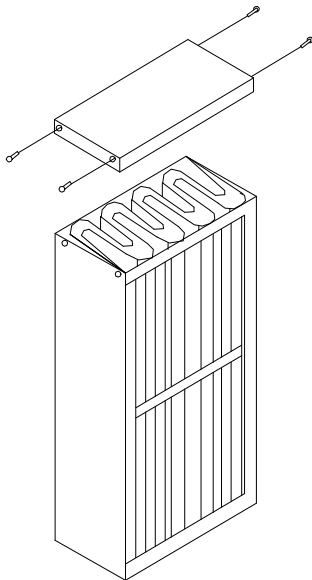

FIG. 1
3. If the unit contains one or two refillable charcoal modules, (RCM), remove each module from the unit by loosening the wing bolts that retain the modules, and pulling the module out. Remove the top cover of RCM to allow access to fill RCM with charcoal provided. (See Fig. 1.) Replace the top cover and re-install the modules into the unit, and tighten wing bolts. (Retain any additional charcoal for future use.)
4. After approximately 6 months use, the refillable charcoal module(s) will need to be refilled with new charcoal (or activated alumina). To refill, remove top cover of RCM-6 (retained by four (4) screws), empty RCM-6 and refill. Shake the RCM-6 to allow for settling and refill to the top. Replace top cover back onto RCM-6. (See Fig. 1.)